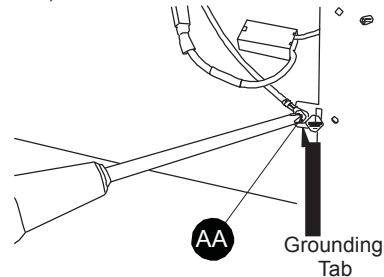

Figure 27 - Attach Grounding Wire
10. Attach the grounding terminal to the tab on the right side of the blower access hole with 1) M4.2X8 screw (AA) (see Figure 27).